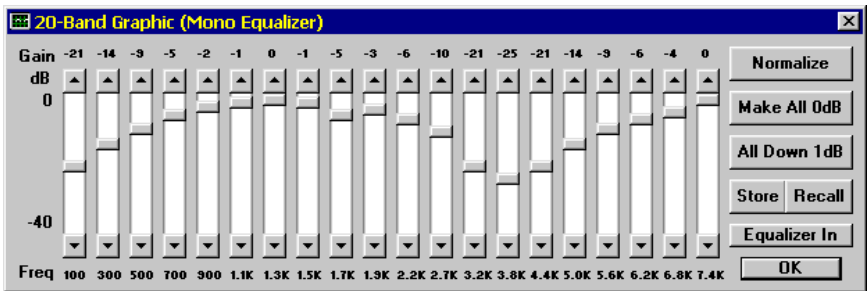

Figure 3-12 Tutorial 20-Band Graphic Equalizer Control Window
33. Click on the **Control** button in the Equalizer block. The window in Figure 3-12 will appear.
34. Use the mouse to set all sliders to match the settings shown in Figure 3-12.